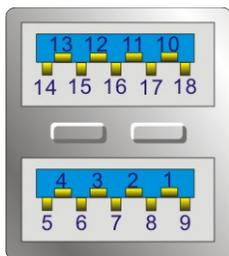

Figure 3-26: USB 3.0 Port Pinout Locations
- CN Pinouts:** See **Figure 3-26** and **Table 3-25**